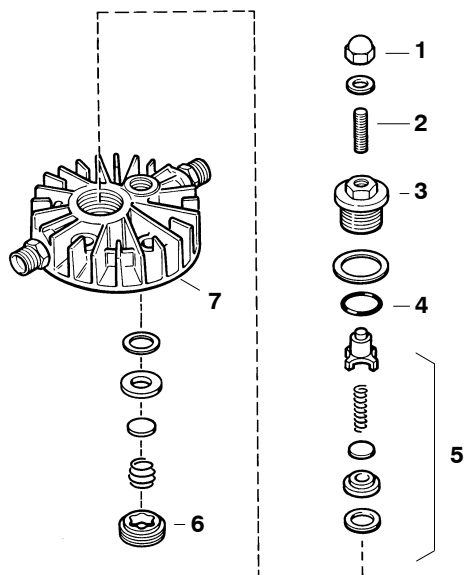

Fig. 7 Valve, 2nd stage
- Unscrew the intake and pressure lines from the cylinder head (7, Fig. 7).